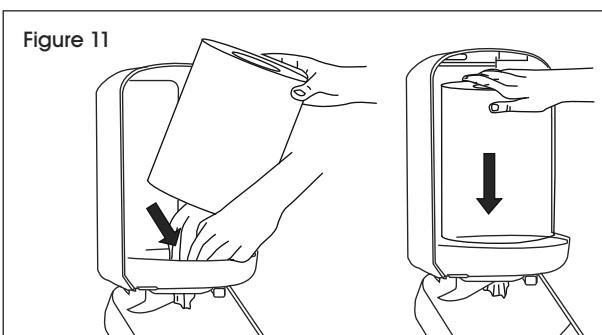

Figure 11
2. Place roll on top of towel tray inside dispenser. Angle the bottom of the roll and feed first sheet into oval hole in tray. Push towel down between rollers of dispensing assembly. (See Figure 11)
3. Seat roll on tray, ensuring towel stays between rollers of dispensing assembly. (See Figure 11)